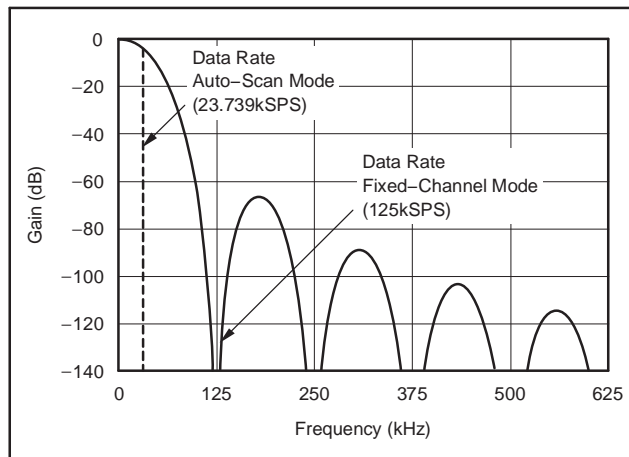
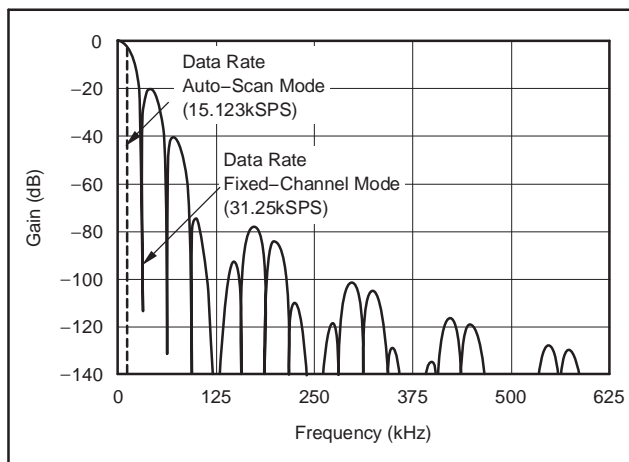

Figure 42. Frequency Response, DRATE[1:0] = 11
Figure 43. Frequency Response, DRATE[1:0] = 10
The low-pass filter has notches (or zeros) at the data output rate and multiples thereof. The sinc5 part of the filter produces wide notches at  $f_{CLK}/128$  and multiples thereof. At these frequencies, the filter has zero gain. Figure 42 shows the response with no post averaging. Note that in Auto-Scan mode, the data rate is reduced while retaining the same frequency response as in Fixed-Channel mode.
Figure 43 shows the response with averaging set to 4 (DRATE[1:0] = 10). 4-reading, post-averaging produces three equally-spaced notches between each main notch of the sinc5 filter. The frequency response of DRATE[1:0] = 01 and 00 follows a similar pattern, but with 15 and 63 equally-spaced notches between the main sinc5 notches, respectively.
(2) Num\_Ave is the number of averages performed by the digital filter second stage.
(3) In Auto-Scan mode, the data rate listed is for a single channel; the effective data rate for multiple channels (on a per-channel basis) is the value shown in Figure 42 and Figure 43 divided by the number of active channels in a scan loop.
Referring to Figure 42 and Figure 43, frequencies present on the analog input above the Nyquist rate (sample rate/2) are first attenuated by the digital filter and then will alias into the passband.